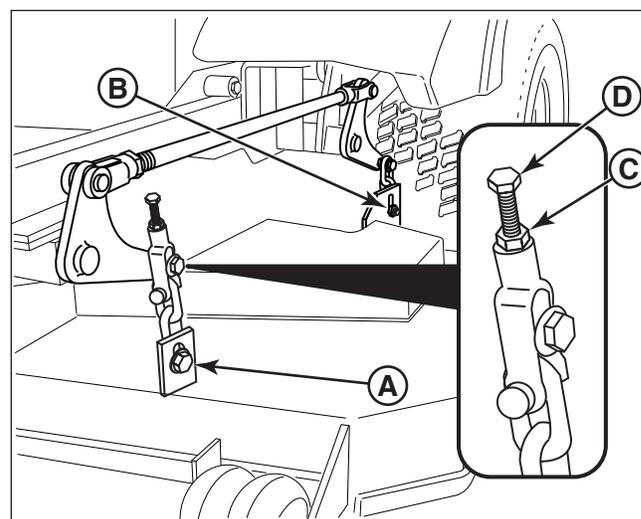

Figure 44. Deck Leveling Adjustment - 61" Models
3. Loosen the nuts (A, Figure 44) and allow the front of the deck to rest on the 2 X 4's. Slide the chains in the slots until the chains are tight and tighten the nuts.
4. Loosen the nuts (B) and allow the rear of the deck to rest on the 2 X 4's and 1/4" spacers. Slide the chains in the slots until the chains are tight and